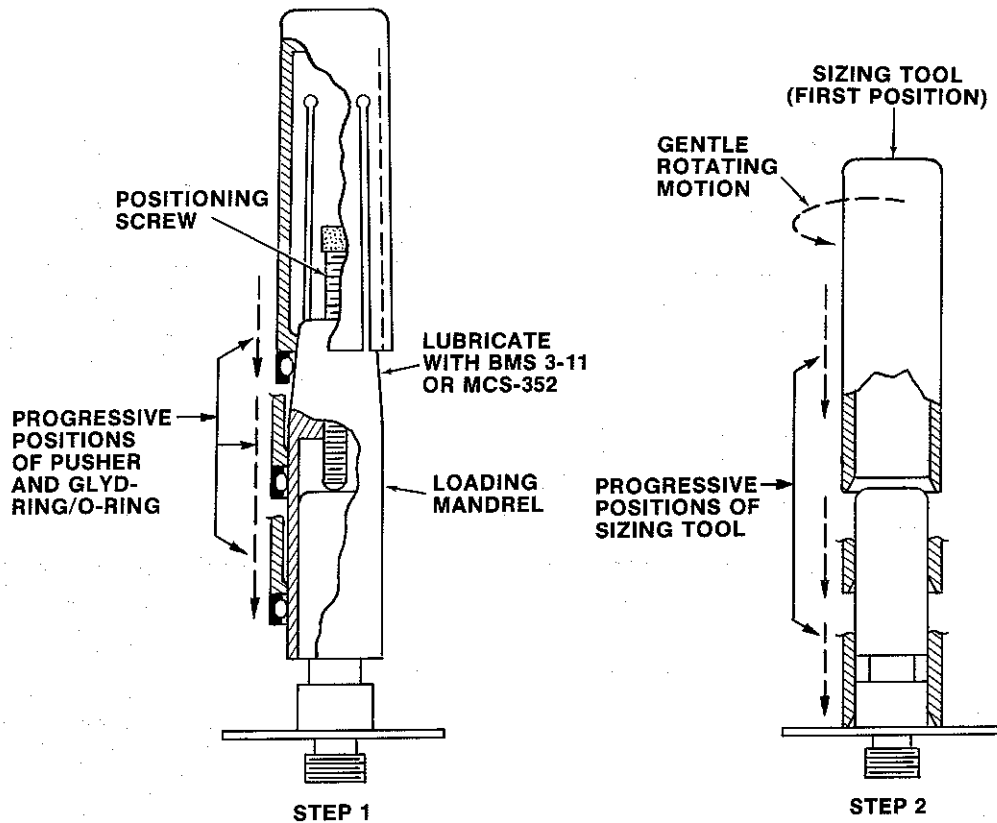

FIGURE 3
1. Place expander over body as shown in Figure 3. Lightly lubricate all seals (10), (15), (20) with BMS 3-11 fluid. Place O-ring (15) over expander and pusher. Place Glyd-ring (20) over expander and push into narrow groove using pusher. Remove expander and size Glyd-ring (20) with sizer as shown in Figure 3. Replace expander and install one O-ring (10) into each remaining groove. Do not slide pusher past the Glyd-ring (20). Extreme care must be taken not to scratch or gouge the Glyd-ring.
2. Install scraper ring (30) into I.D. groove in slider (25).